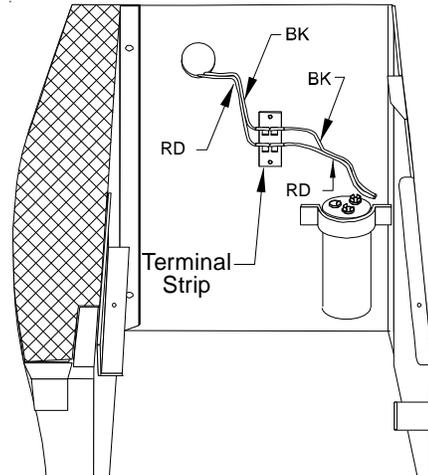

Figure 13
- Using the two provided #8 screws, attach the terminal strip to the partition panel inside the control panel compartment (Figure 13).
- Take BK and RD indoor fan motor wires from the control board (high and low fan terminals) and place on the terminal strip, each on a different set of terminals (Figure 13).